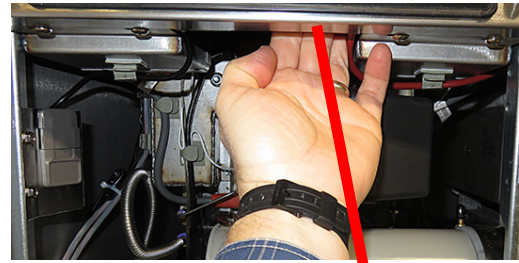

Figure 5
25. Cycle the fryer control power using the reset switch. In FQGLA models, this is located under the USB slot (see Figure 3). In FQG30-T models the momentary rocker switch (see Figure 4) is located under the far-left control box (see Figure 5). In FQE30-T models the momentary rocker switch is located directly behind the JIB reset switch (see Figure 6).
21. Cycle the fryer control power using the reset switch. In FQGLA models, this is located under the USB slot (see Figure 3). In FQG30-T models the momentary rocker switch (see Figure 4) is located under the far-left control box (see Figure 5). In FQE30-T models the momentary rocker switch is located directly behind the JIB reset switch (see Figure 6).